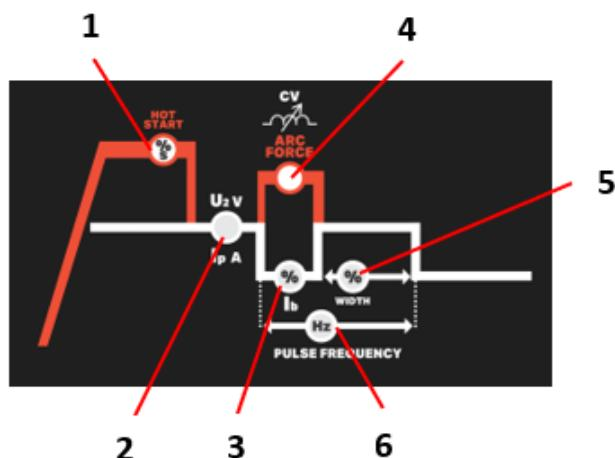

Fig. 1 – MMA parameters
For DC 164 and DC 204 (See items in Fig. 1 A)
For DC 224 (See items in Fig. 1 B)
- Adjust the current value to the diameter of the electrode (Fig.1 - 2), according to the following table, to adjust the machines according to the electrode to be used and start welding